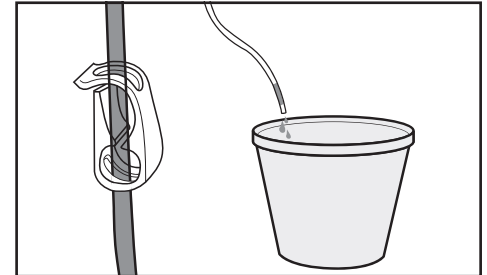

Figure 10. Closing clamp on Drain Line.
10. Using sterile technique, close clamp on Drain Line to ensure saline flows through Delivery Device during the procedure (Figure 10).